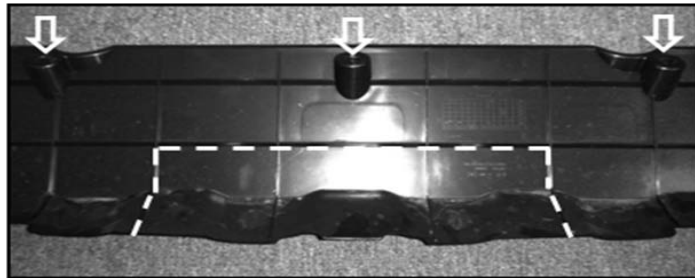

Fig 1
- a) Referring to the image below, cut out a rectangle, using the ribs on the panel as a guide, in the lower infill panel as shown in Fig 1.